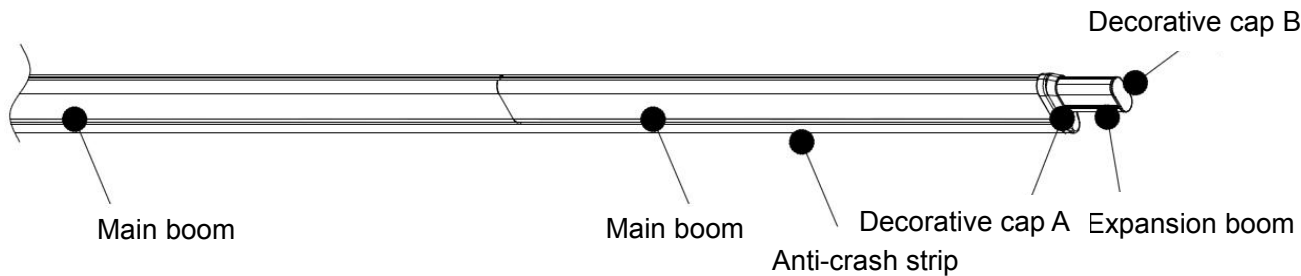

Figure 2-4E Appearance of the Straight Boom
- 6) Install the anti-crash strip, as shown in Figure 2-4E.